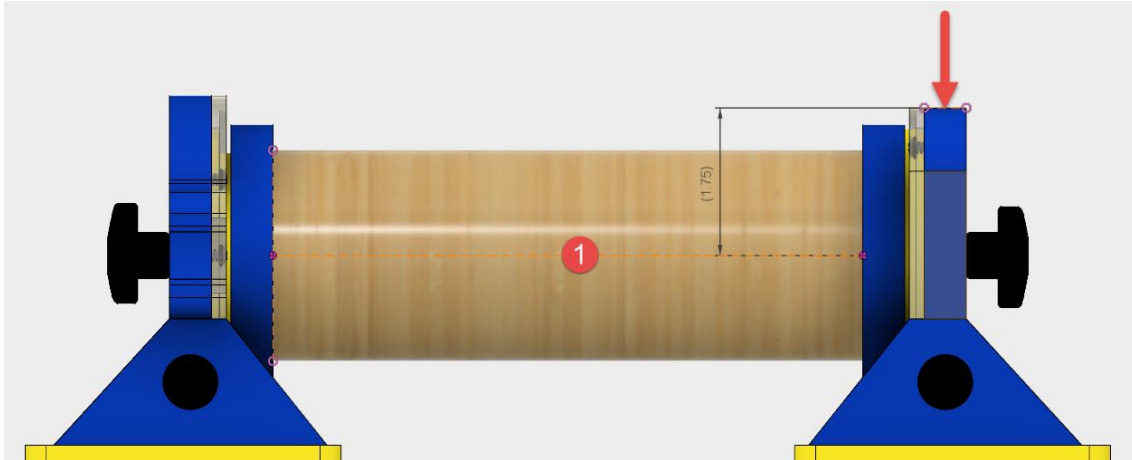

Figure 17
- 1) Touch off to the top of the driven side (red arrow) with the paper test, and offset 1.75" to the mounting plate at line 1 (Figure 17)